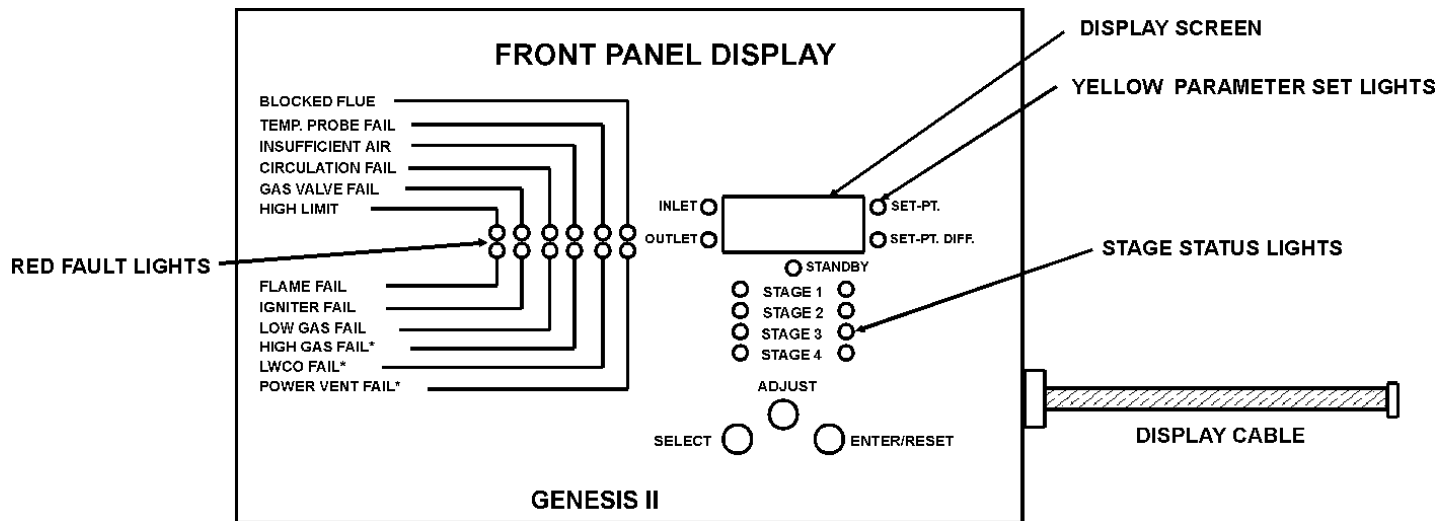

Figure 3. Display Board
When power is applied to the Control System, the Display Board will initially run through a self-diagnostic test, and then display the inlet temperature. To display a specific setting or temperature, press the SELECT push-button until the appropriate LED is illuminated (see figure 3). After 5 seconds, the Display Board will automatically revert to displaying the Inlet temperature. Pressing the ENTER/RESET push-button will hold the display in the indicated mode until the SELECT push-button is pressed.
Green LEDs indicate when a given stage has sensed flame and is in the heating state. They also are used to indicate when the Set-Point differential for a given stage is being viewed or adjusted. (See Figure 3.)
The Red LEDs are illuminated to show faults and help in trouble shooting. There are three faults (High Gas Fail, LWCO and Power Vent Fail) listed as "Optional" which are only functional when the particular "Optional" equipment is connected to the boiler. The red stage LEDs indicate the stage on which a given fault has occurred. (See figure 3.)
The five yellow parameter set lights allow the user to view system set points and options. In conjunction with the four green stage LEDs, the user can monitor and change settings on the various stages. (See Figure 3.)
1. Press the SELECT push-button on the display board until both the Set-Pt LED (see figure 3) and Outlet Water Temperature LED (see figure 3) are illuminated.
1. Press the SELECT push-button on the display board until both the Set-Pt LED (see figure 3) and Inlet Water Temperature LED (see figure 3) are illuminated.
1. Press the SELECT push-button on the display board until both the Set-Pt Diff. and green Stage One LED are illuminated. See figure 3.
1. Press the SELECT push-button on the Display Board until the LED display reads "OP" (Options). See figure 3.
6. The display will automatically return to illustrating the controlling probe temperature after five (5) seconds.